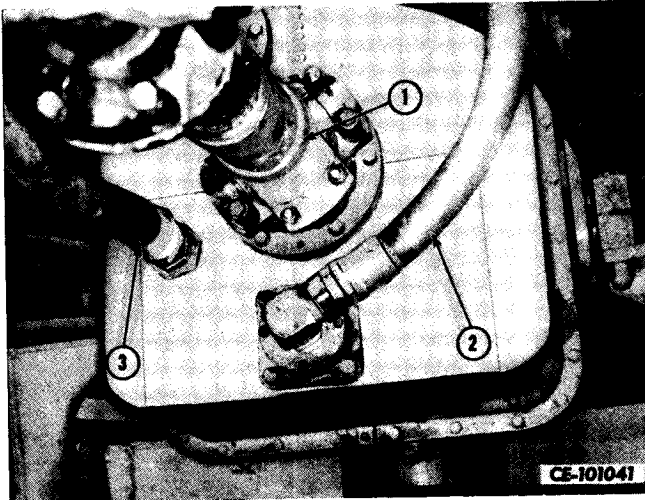

Figure 4-9
Remove transmission to rear axle drive shaft (1, Fig. 4-9) from tractor. Disconnect converter drain hose (3) and suction line hose (2).